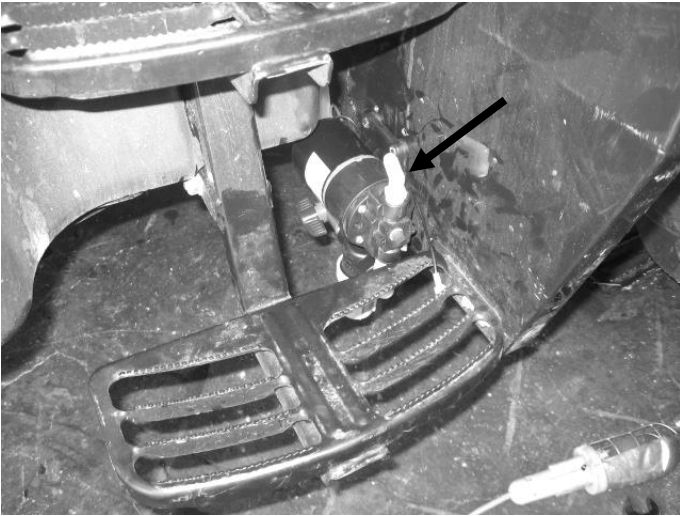

Figure 1
2. Mark and drill four 5/16" holes on the right side fender using the pump mount as a template. (Figure 1) Mount the pump so that the filter bowl can be removed to clean and the pump head can be removed to be rebuilt.